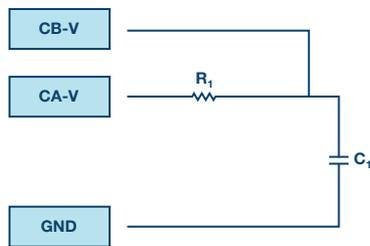

Figure 7. RC circuit.
2. For the RC circuit in Figure 7, measure the time difference and calculate the phase θ offset at 1000 Hz frequency.